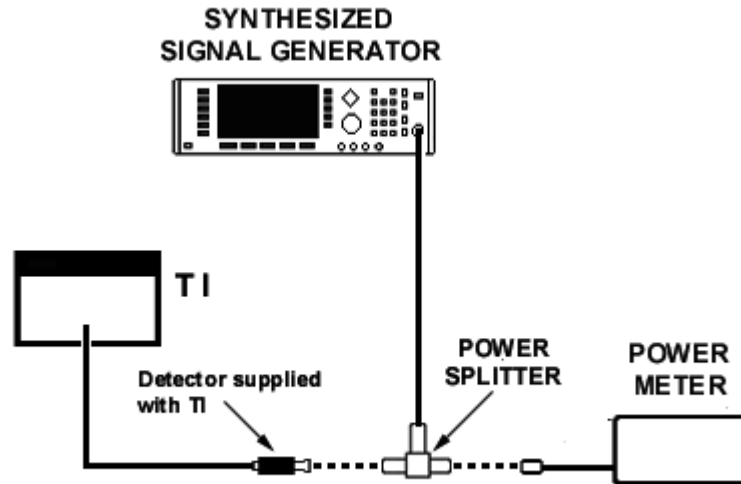

Figure 4. RF calibration - equipment setup.
- (1) Connect equipment as shown in figure 4.